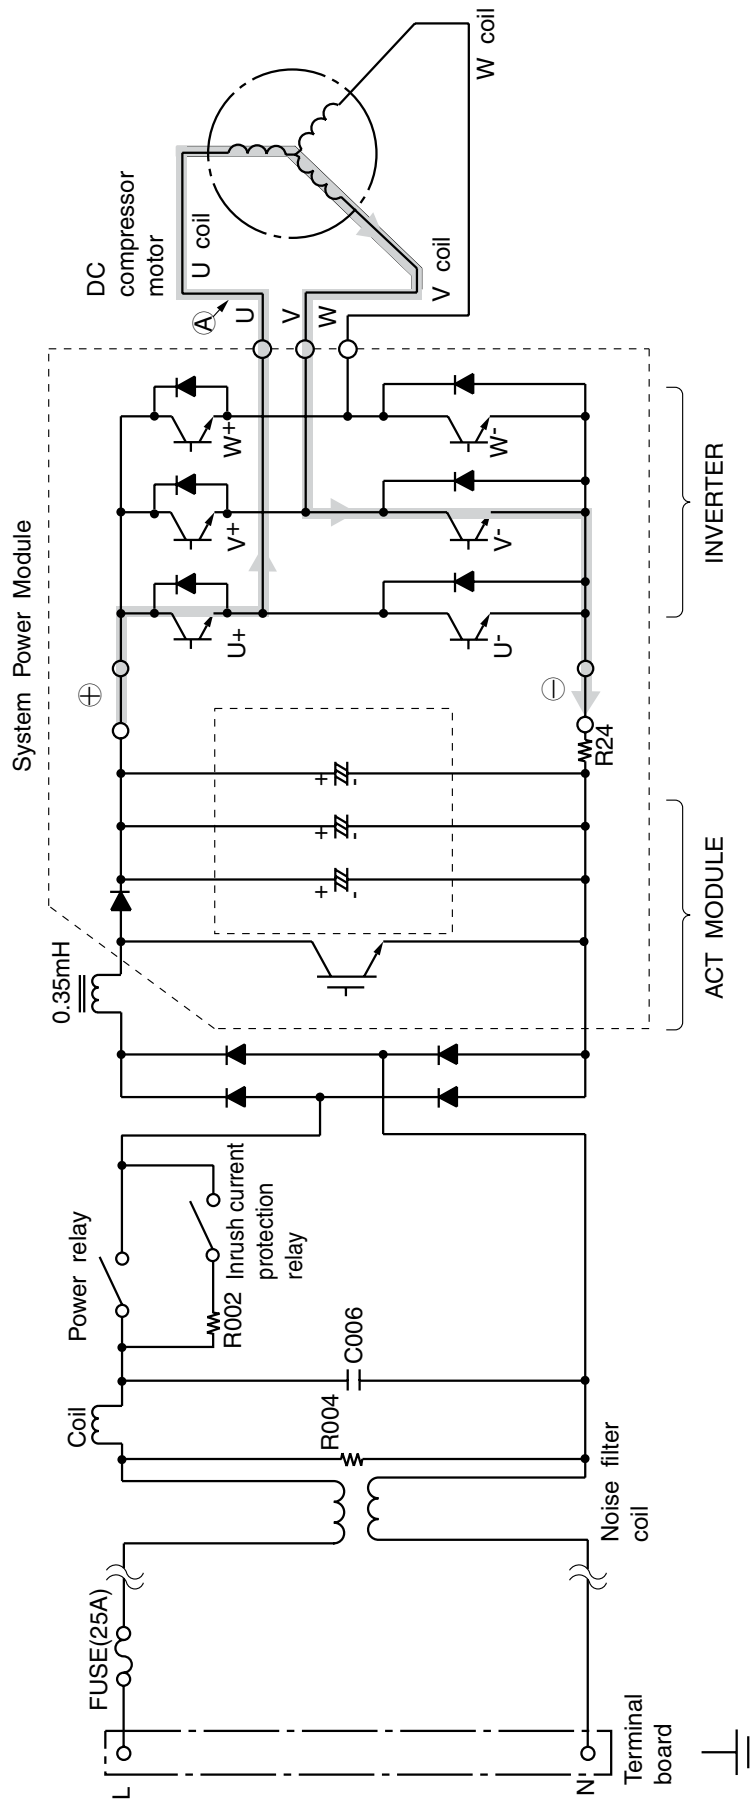

Fig. 3-1 System power module circuit (U+ is ON, V- is ON)
- Fig. 3-1 shows the system power module and its peripheral circuits. (Current ACT module and power module are combined into one unit.) The three transistors on the positive ⊕ side are called the upper arm, and the three transistors on the negative ⊖ side, the lower arm.